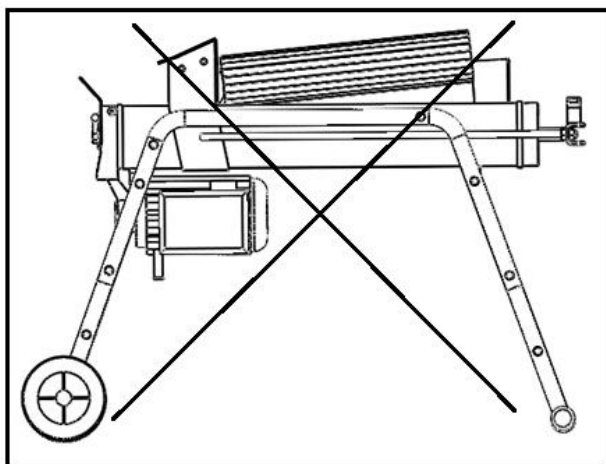

Fig. 9
**Always set logs firmly on the log retaining plates and work table. Make sure logs will not twist, rock or slip while being split. Do not force the blade by splitting the log on the upper part. This will break the blade or damage the machine. (Fig.9)**